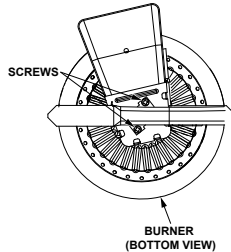

FIGURE 25.
1. Take off the burner by removing the two (2) screws located underneath the burner.
2. Check the burner to see if it is dirty or clogged. The burner may be cleaned with soap and hot water (Figure 25).